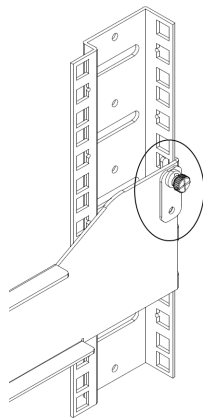

Figure 2 (Rear Locking Bracket Shown)
5. Install the **Locking Brackets** (See Figure 2) on both front sides, and one on the rear, opposite to the installation of the **Cable Management Assembly Arm**. To do this, insert the pin of the **Locking Bracket** into the corresponding holes and tighten via the **Thumbscrews**.